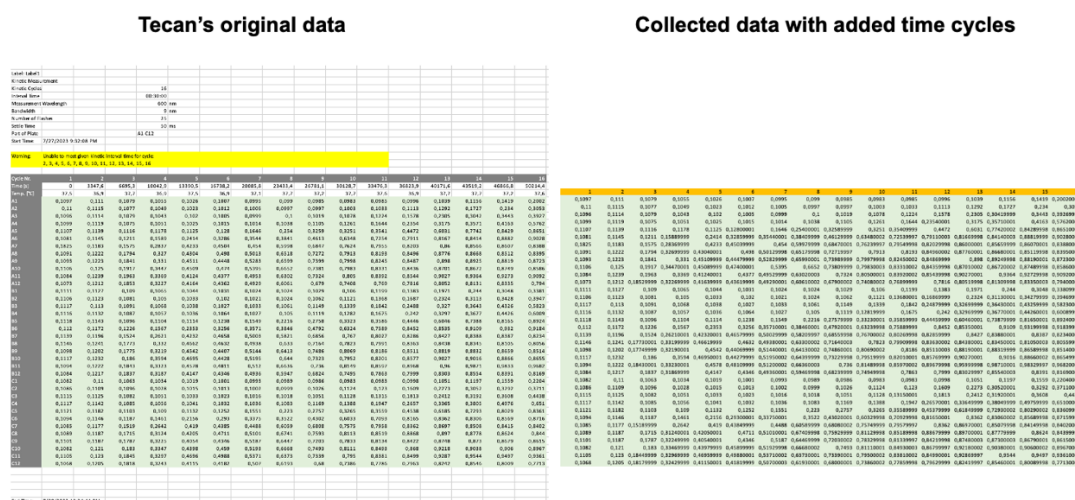

Figure 3. Data collection from Tecan's original data file and saved new data file with manually added cycle times.
1. Only the absorbance value should be collected from the Tecan microplate reader data file, as shown in Figure 3, highlighted in green.